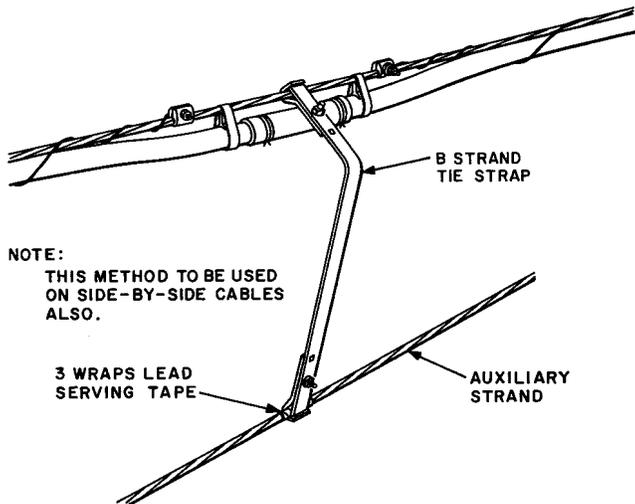

Fig. 9—B Tie Strap Placed 1/4 and 2/3 Span Points on Inverted Auxiliary Strand
- (1) Loosen nut on the carriage bolt sufficiently to enclose the strand in the groove.
- (2) Place the strap with clamp and head of carriage bolt under the suspension strand, ie, between the strand and cable.
- (3) Turn nut down fingertight.
- (4) Wrap three layers of lead serving tape around the 2.2M auxiliary strand at the attachment point.
- (5) Attach clamping detail and strap so the auxiliary strand tends to tie down the suspension strand.
- (6) Position the strap properly and tighten both nuts securely. The completed installation is shown in Fig. 9.
4.12 Where 20- and 26-inch tie straps are used, the bent end of the strap should be attached to the cable suspension strand. Where the 14-inch tie strap is used, a bend of approximately 45 degrees should be made about 4 inches from one end and this end attached to the cable suspension strand as shown in Fig. 9.